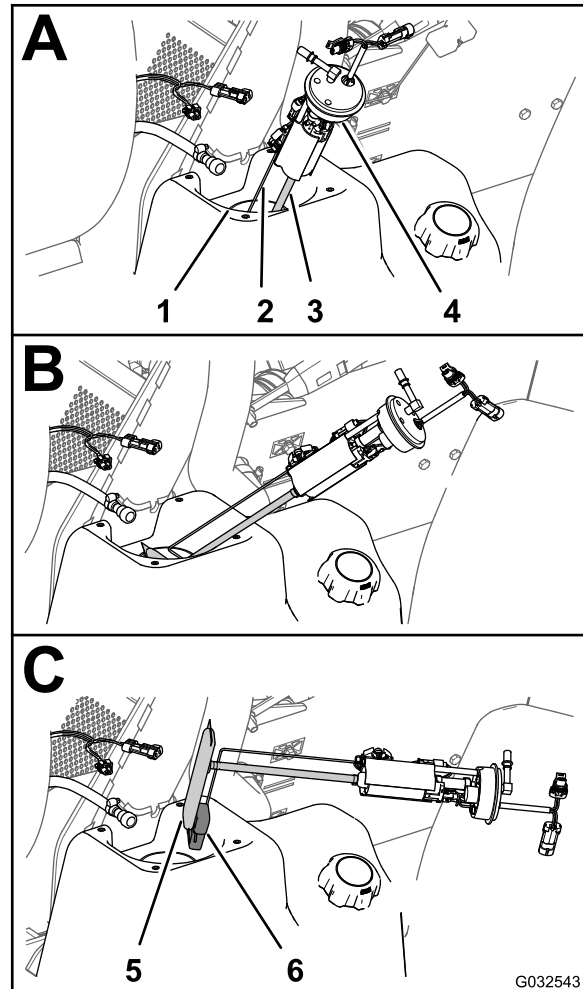
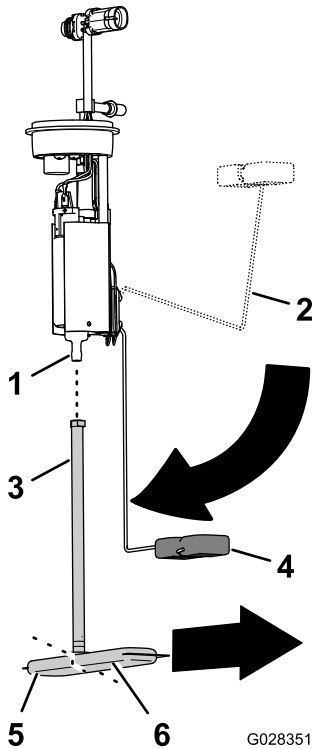

Figure 73
Figure 74
6. Carefully lift and rotate the fuel pump/sending unit out of the neck of the fuel tank (Figure 73).
1. Remove the pickup tube of the fuel filter from the fitting of the fuel pump (Figure 74).
2. Align the pickup tube of the new fuel filter with the fitting of the fuel pump (Figure 74).
3. Align the long leg of the fuel filter with float when the float arm is in the empty position (Figure 74).
4. Insert the fuel-pump fitting into the pickup tube until the fitting is fully seated (Figure 74).
1. Support the float arm and pickup tube together and slip the float and fuel filter into the opening in the fuel tank (Figure 73).
2. Seat the fuel pump/sending unit into the opening in the tank (Figure 73 and Figure 74).
3. Install the seal and nut over the fuel pump/sending and onto the neck of the fuel tank and tighten the nut hand tight (Figure 73).
4. Connect the coupling on the fuel hose to the fitting of the fuel pump (Figure 73).
5. Connect the 2-socket connector of the machine-wiring harness to the 2-pin connector of the fuel pump/sending unit; Connect the 2-pin connector of the machine-wiring harness to the 2-socket connector of the fuel pump/sending unit (Figure 73).